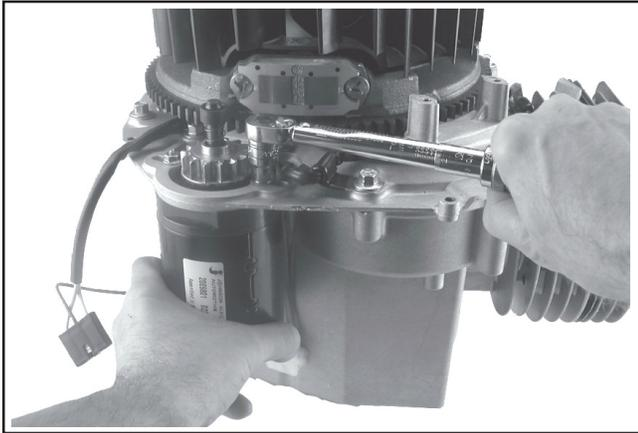

Figure 10-47. Installing Electric Starter.
1. Install the electric starter to the closure plate and secure with the two #10-24 hex. nuts. Make sure the wires are clear of any moving parts and torque the hex. nuts to **3.6 N·m (32 in. lb.)**. See Figure 10-47.